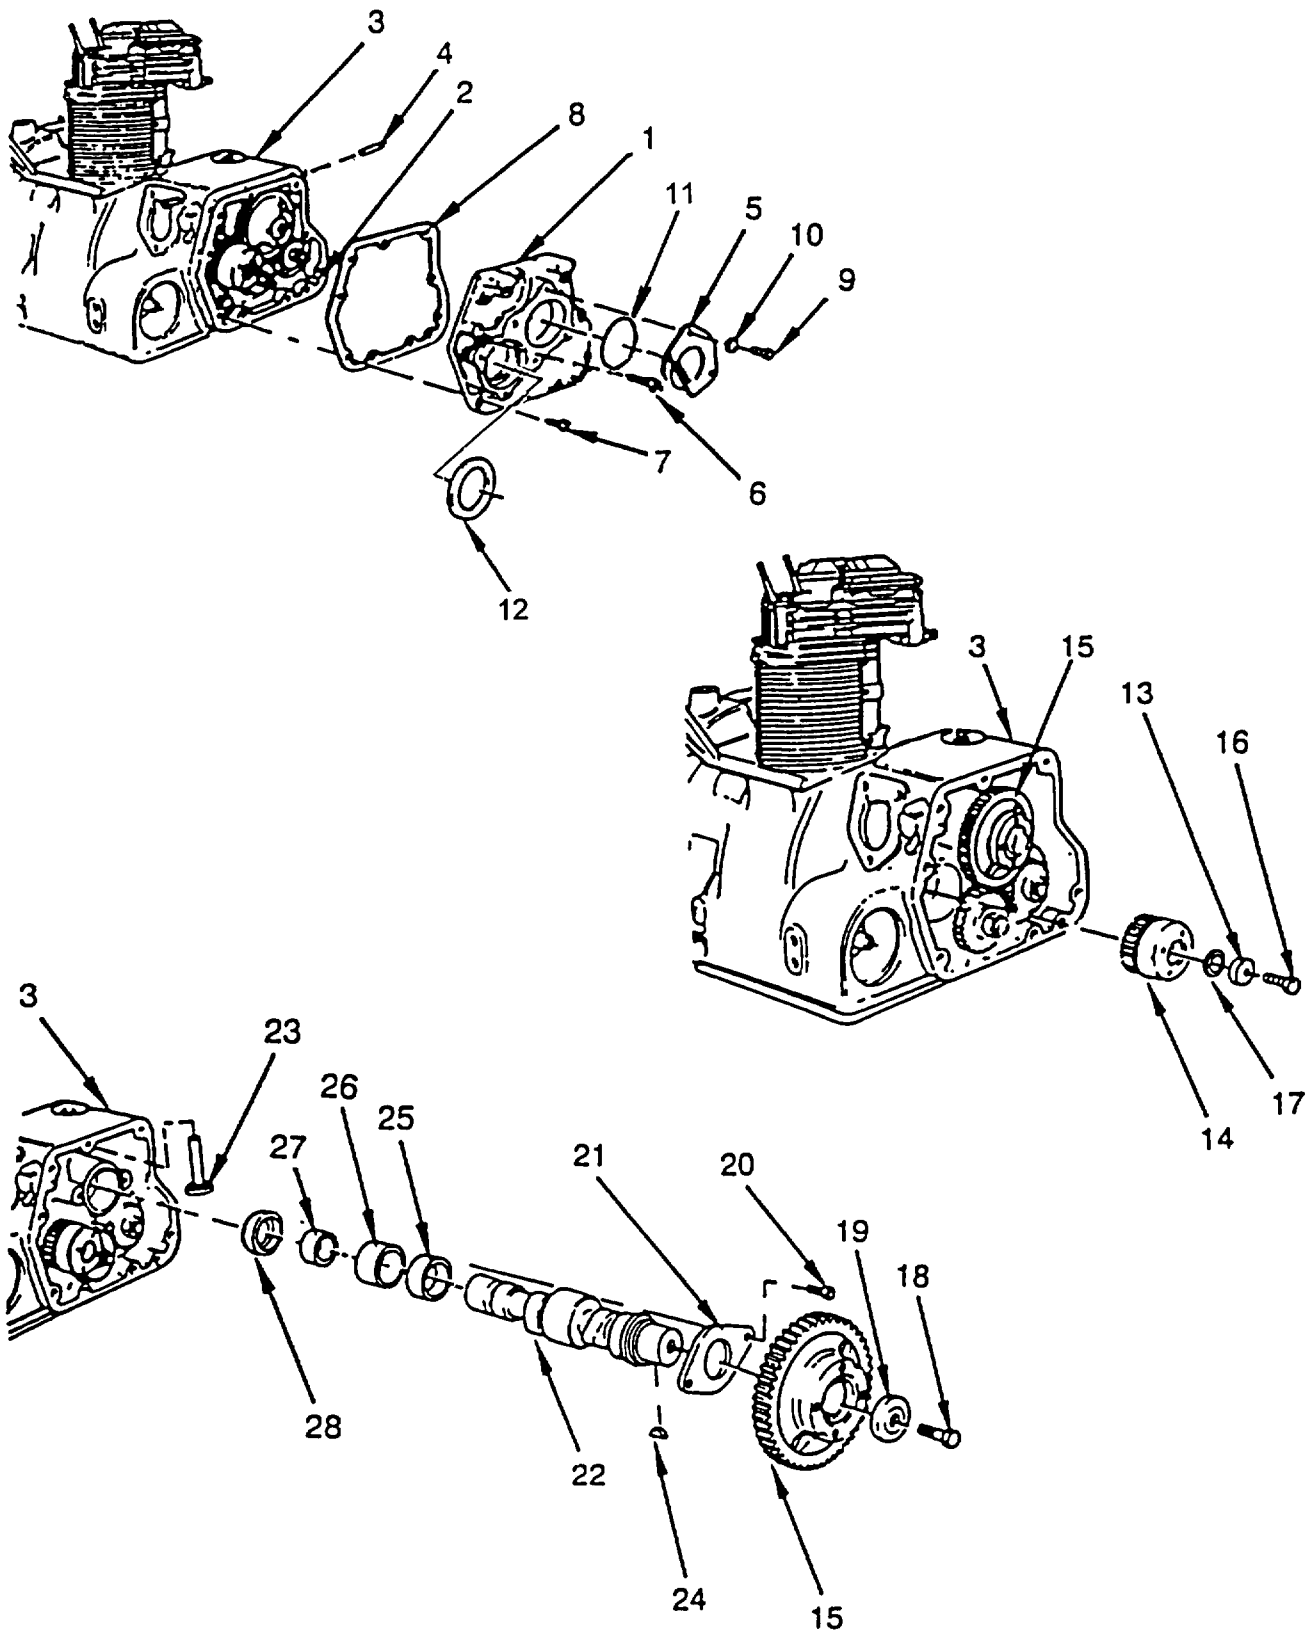

Figure 6-4. Camshaft Replacement
a. Removal. (Refer to Figure 6-4).